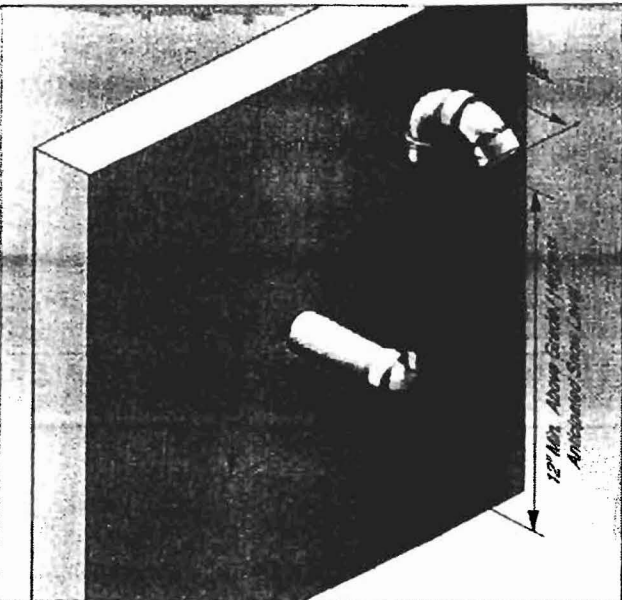

Fig. 31: Category IV - Sidewall Snorkel Termination of Vent Pipe with 45° Elbow Termination
- Using a 45° elbow as shown in Fig. 28 page 26 or Fig. 31 page 27.